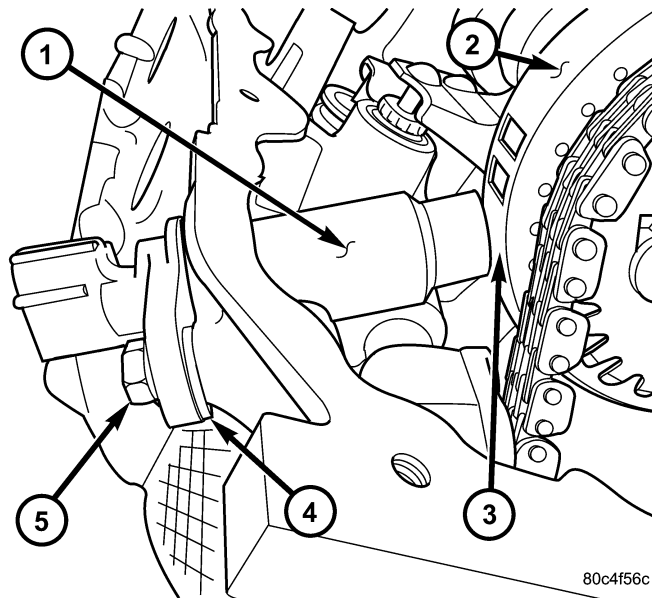

FIGURE 1
1. Observe how the cam position sensor is mounted to the engine cylinder head. Inspect for the presence of a shim between the CMP sensor and the engine cylinder head. Figure 1.